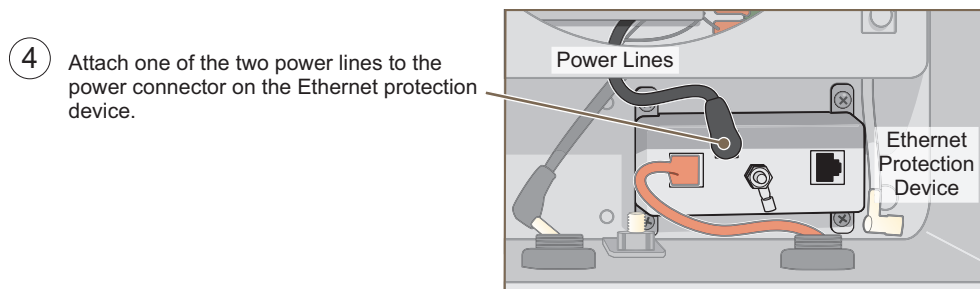

Figure 9. Attaching a power line to the Ethernet protection device.
4. Attach either of the two power lines to the Ethernet protection device, as shown in Figure 9.